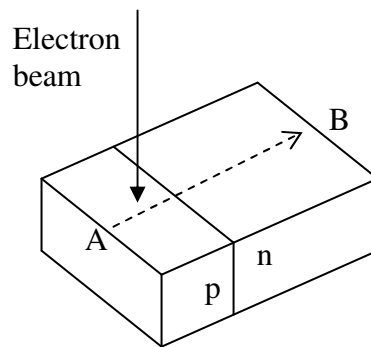

Fig. Q.4.1
- 3. a.** Explain the key differences between electrical overstress and electrostatic discharge (ESD). (4)
- b.** i) Explain how electrostatic discharge can cause junction burnout in a semiconductor device. (3)
- ii) List three strategies to minimise the risk of ESD damage to sensitive electronics. (3)
- c.** Draw the equivalent circuit for the human-body model commonly used for simulating ESD. (4)
- i) Calculate the time constant of the discharge and estimate the time span over which the discharge occurs. (3)
- ii) Calculate the maximum current density flowing through the photodiode. (3)
4. a. i) Draw a basic schematic diagram of a scanning electron microscope (SEM), labelling the key features clearly. (4)
- ii) Briefly describe how a SEM works. (6)
- b. Outline the principles of operation of the electron beam induced current (EBIC) mode in SEM. (2)
- c. An electron beam is scanned across a p-n junction from position A to position B, as illustrated in Fig. Q.4.1.
- i) Describe and explain the expected behaviour of the EBIC current as the beam is scanned. (3)
- ii) Sketch and label the current induced as a function of beam position. (2)